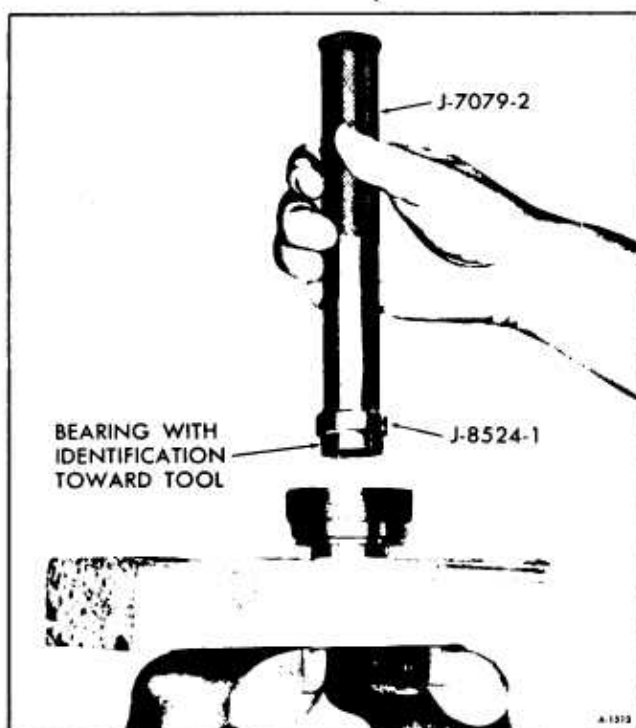

Figure 31—Installing Bearing
1. If the needle bearing was removed, place new needle bearing over Tool J-8524-1 and J-7079-2, with the bearing manufacturer's identification against the tool, and drive the bearing into the adjuster plug until the tool bottoms in the housing (figure 31).